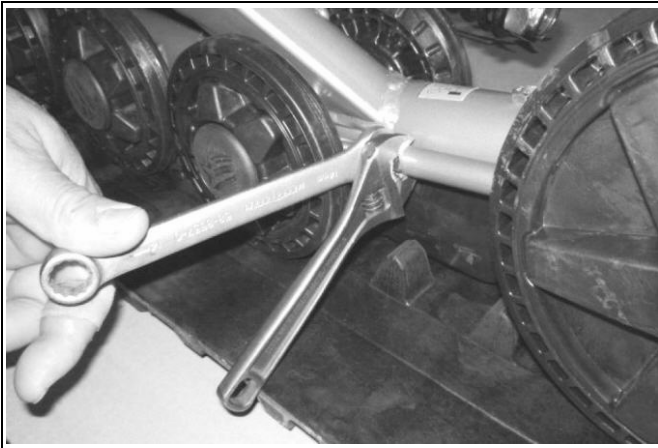

Figure 15
- Set rubber track tension to the minimum (refer to Figure 15).